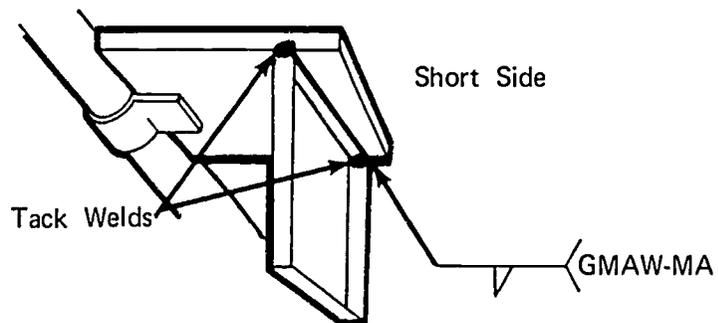

FIGURE 3
- E. Clamp metal in overhead position (Figure 3)